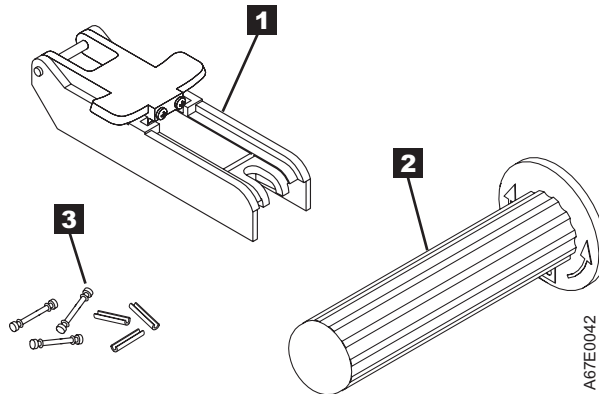

Figure 74. Leader Pin Reattachment Kit
- **Leader pin attach tool** (see **1** in Figure 74). A plastic brace that holds the cartridge door open.
- **Cartridge manual rewind tool** (see **2** in Figure 74). A device that fits into the cartridge's hub and lets you wind the tape into and out of the cartridge.
- **Pin supplies** (see **3** in Figure 74). Leader pins and C-clips.